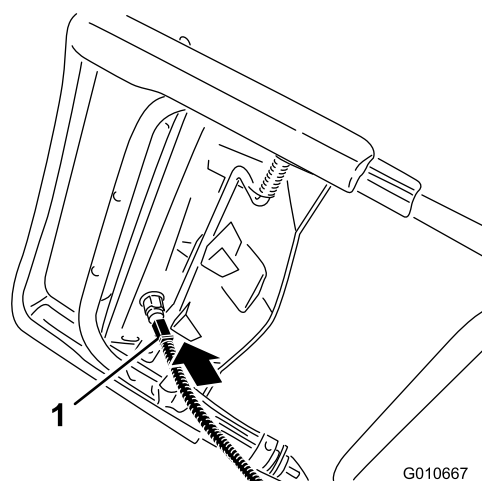

Figure 12
17. Connect the ignition connector to the ignition switch on the underside of the upper handle (Figure 12).